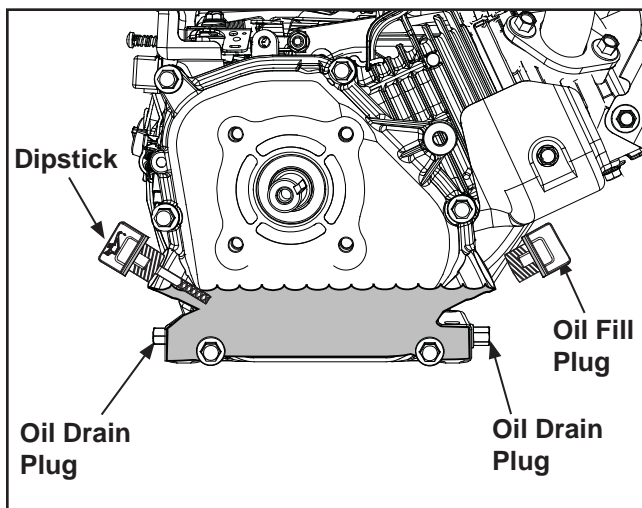

Figure 6-7. Dipstick Oil Level Check.
1. To keep dirt, debris, etc., out of the engine, clean the area around the oil fill plug/dipstick before removing it. See Figure 6-7.